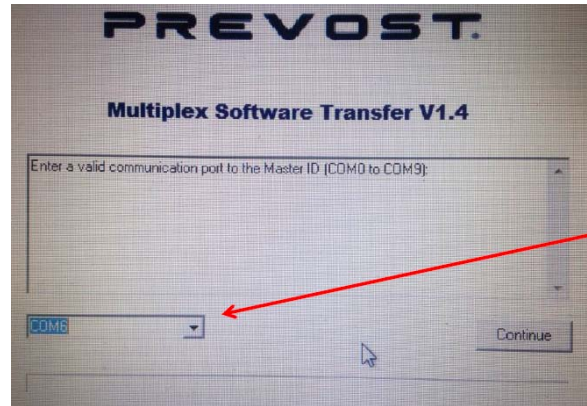

FIGURE 33: ENTER PROPER COM PORT NUMBER
6. Double-click on the specific multiplex program file, a dialog box will open. You must enter a valid communication port to master id/mcm. Select the proper com port number previously identified and then click on “continue” (see Figure 33). The upload will begin.